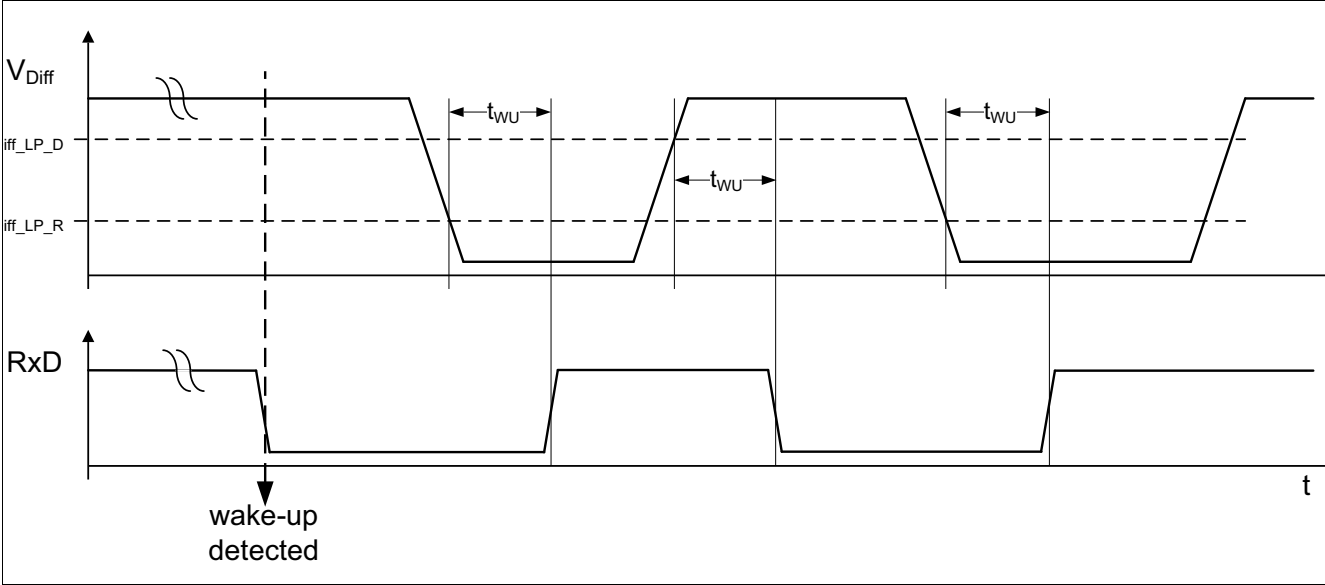

Figure 7 RxD signal after wake-up detection
- The low-power receiver is enabled and monitors the HS CAN bus for a valid wake-up pattern (WUP). The RxD output pin indicates the detection of a valid wake-up pattern (Chapter 5.4). As long as no wake-up event is detected, the default of the RxD output is "high". After detecting a wake-up, the RxD follows the bus with a certain delay (see Figure 7)
After the device detects a wake-up event the RxD output follows the CANH/CANL input pins. Dominant and recessive signals are indicated on the RxD output as "high" and "low" with the delay of t_{WU} as long their pulse width exceeds the filter time t_{Filter} (see also Figure 7).